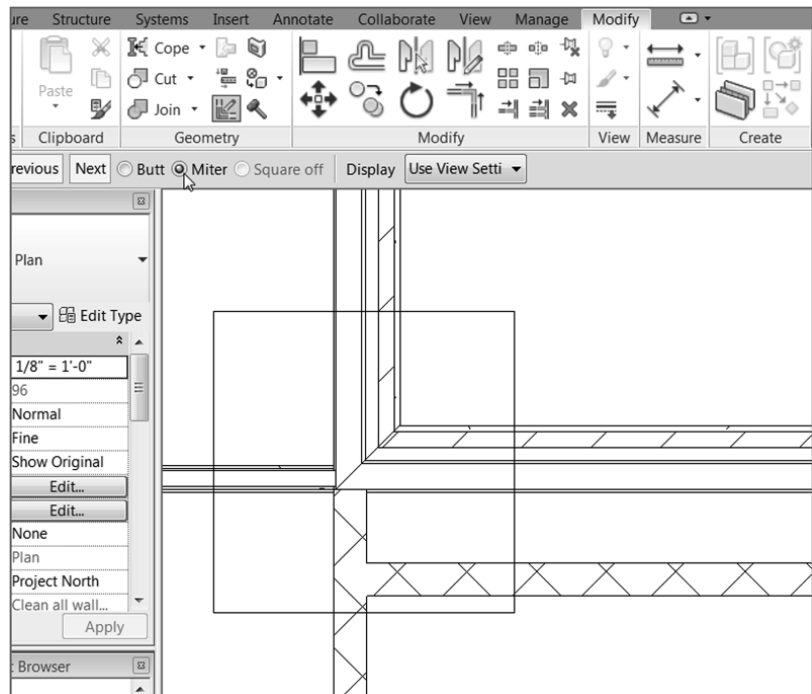

FIGURE 2.54: Adding a mitered joint
10. On the Options bar, you now see some choices for configuring this intersection. Select the Miter option, as shown in Figure 2.54. This option is the most popular. Click Modify.